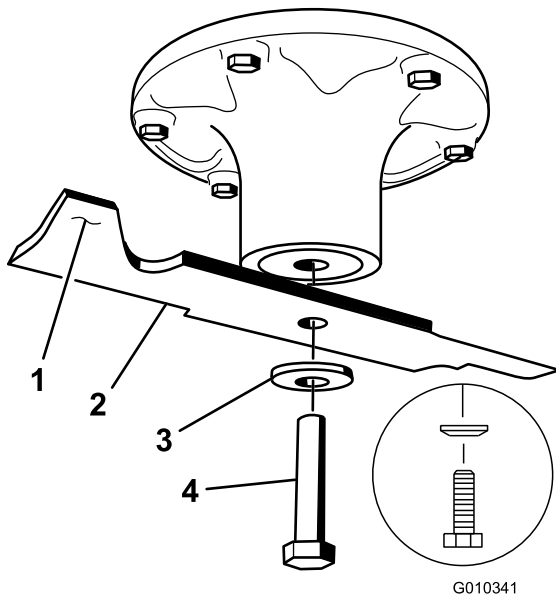

Figure 59
2. Remove the blade bolt, curved washer, and blade from the spindle shaft (Figure 59).
- Install the blade onto the spindle shaft (Figure 59).
- Install the spring disk and blade bolt with the spring disk cone installed toward the bolt head (Figure 59).